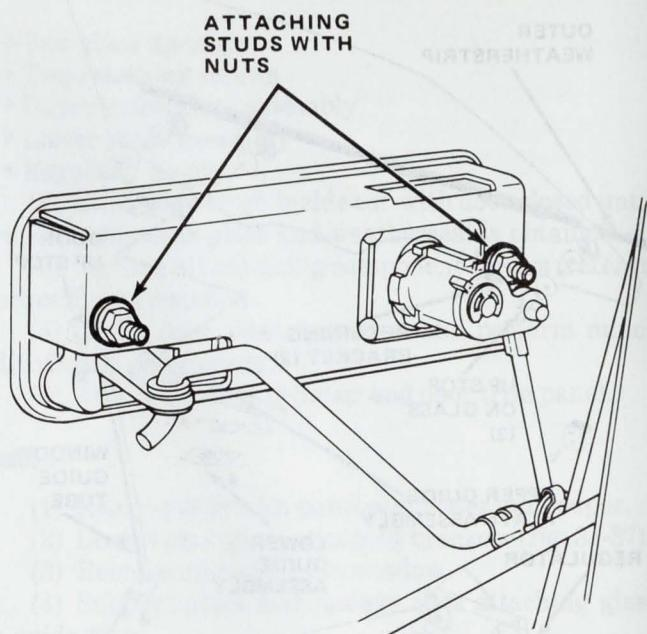

Fig. 3J-39 Outside Door Handle Attachment—Matador
- (1) Remove door trim panel.
- (2) Remove water dam paper.
- (3) Raise window to closed position.
- (4) Disconnect rods from handle (fig. 3J-39).
- (5) Remove nuts attaching gasket and handle to door (fig. 3J-39). Remove handle.
- (6) Attach seal and handle to door with nuts and tighten to 38 inch-pounds (4.3 Nm) torque.